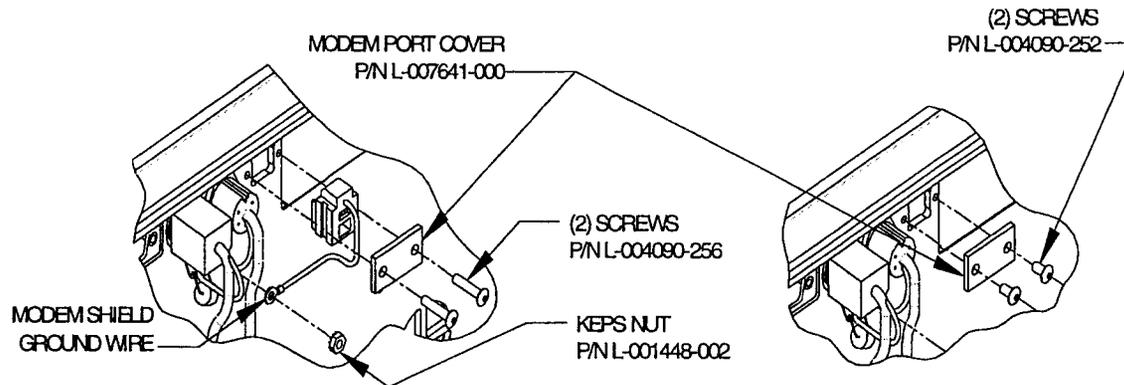

FIGURE 4-34.
1. Install the internal modem cable assembly (P/N L-007076-000) into the modem hole inside the rear extrusion, as shown in Figure 4-34.